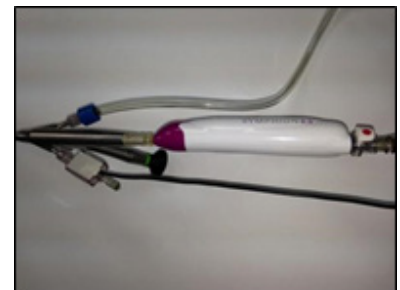

Figure 37
**CIRCULATING NURSE or PHYSICIAN** – Introduce the Resecting Device into the working channel of the Endoscope through the Introducer (Fig. 37).